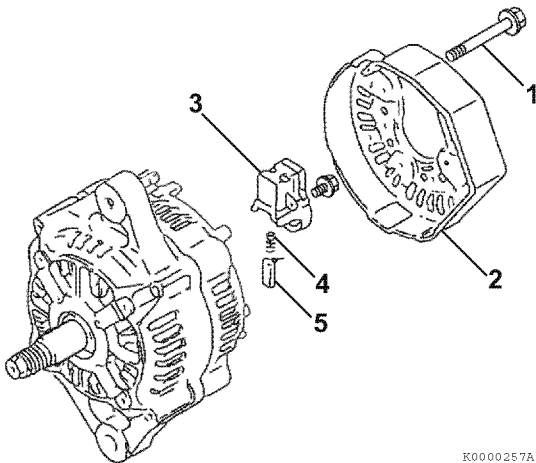

Figure 11-17
- Reinstall the brush holder (Figure 11-17, (3)), springs (Figure 11-17, (4)) and brushes (Figure 11-17, (5)).
10. Reinstall the rear cover (Figure 11-17, (2)) to the rear frame housing with three bolts (Figure 11-17, (1)).